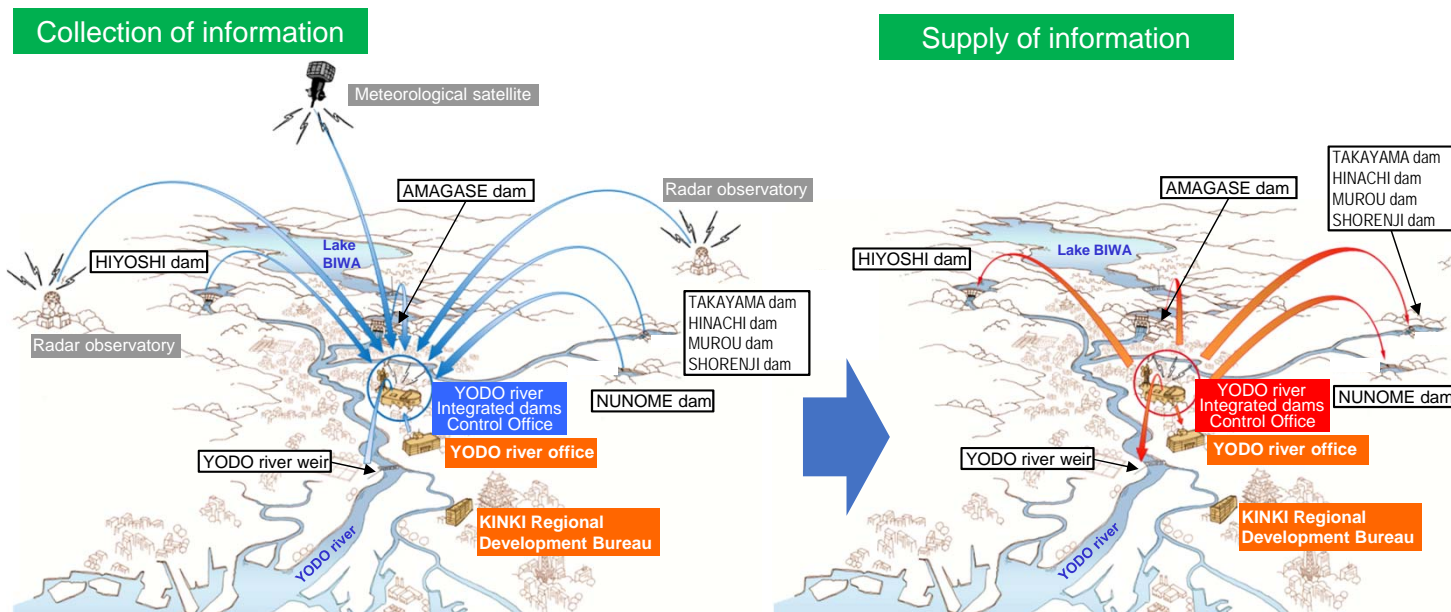

Fig.4-1 The Yodo river basin
- Shorenji, Hinachi and Murou Dams in the Yodo river basin (Fig.4-1)